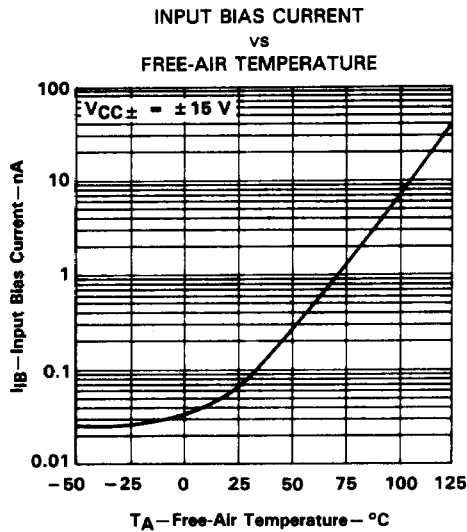

FIGURE 18
* Input bias currents of a JFET-input operational amplifier are normal junction reverse currents, which are temperature sensitive as shown in Figure 18. Pulse techniques must be used that will maintain the junction temperatures as close to the ambient temperature as is possible.